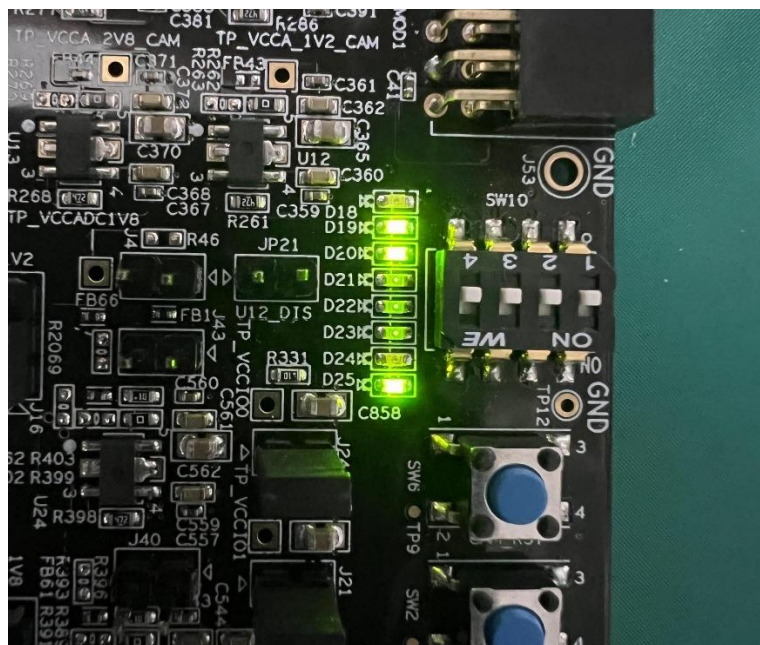

Figure 6.22. LED Status
- Hardware LED status as shown in Figure 6.22: